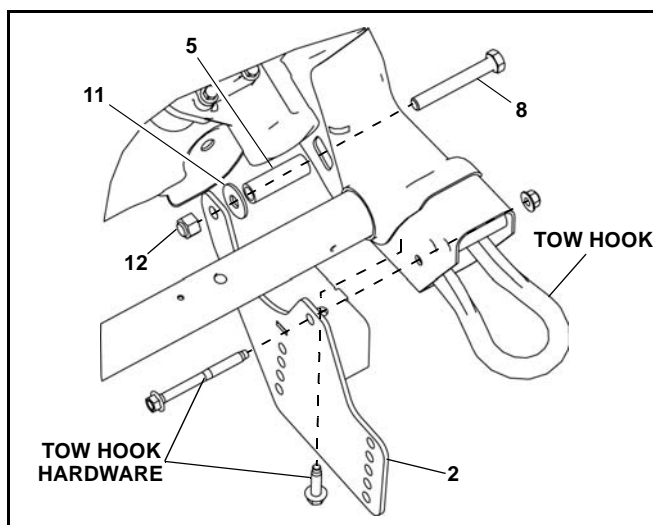

Figure 1
3. Remove the tow hooks and retain with hardware for re-installation. NOTE: For steps 4 through 8, refer to Figure 1.
4. Insert (1) of item #8 through the hole opposite the square cut out on the driver side frame rail.
5. Slide (1) of item #5 & #11 over item #8, while item #8 is within the truck frame